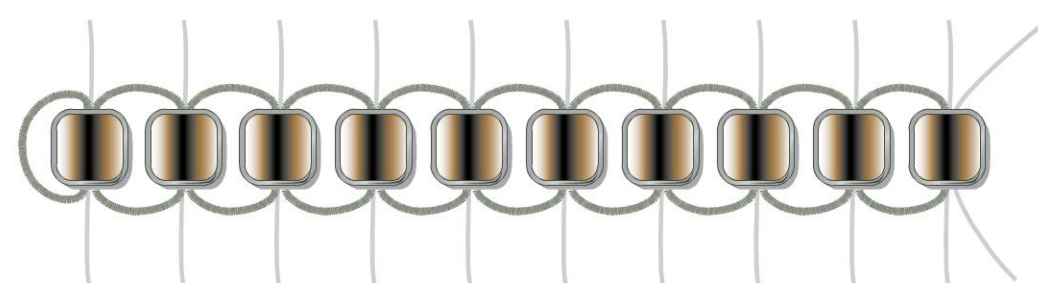

figure 4
- 10** Repeat Steps 6–9 until all frames, beads, and coils have been added (Figure 4).